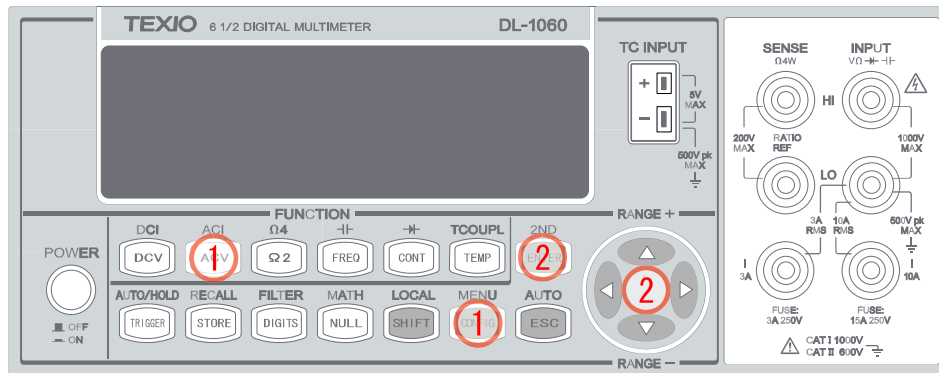

Figure 3-2
1. Press ACV button and then CONFIG buttons as shown in **Figure 3-2**.